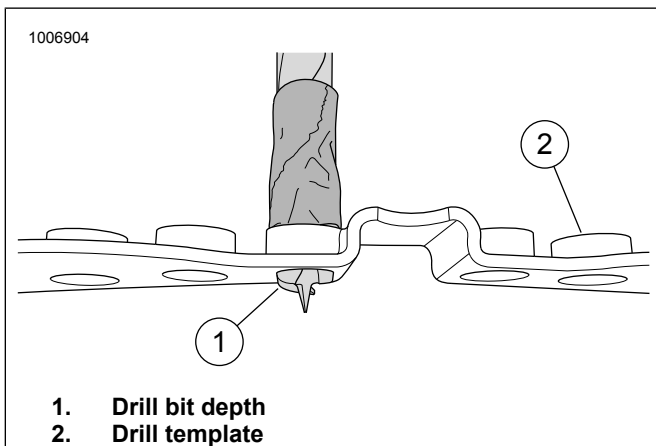

Figure 3.
7. Figure 3 Check drill bit depth (1) against the drill template (2). It should go deep enough through the template to drill out holes in the fairing vent.